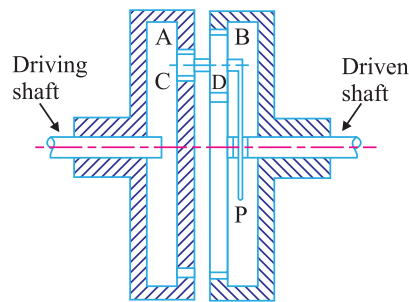

Fig. 13.42
13. An epicyclic train is shown in Fig. 13.42. Internal gear A is keyed to the driving shaft and has 30 teeth. Compound wheel C and D of 20 and 22 teeth respectively are free to rotate on the pin fixed to the arm P which is rigidly connected to the driven shaft. Internal gear B which has 32 teeth is fixed. If the driving shaft runs at 60 r.p.m. clockwise, determine the speed of the driven shaft. What is the direction of rotation of driven shaft with reference to driving shaft?